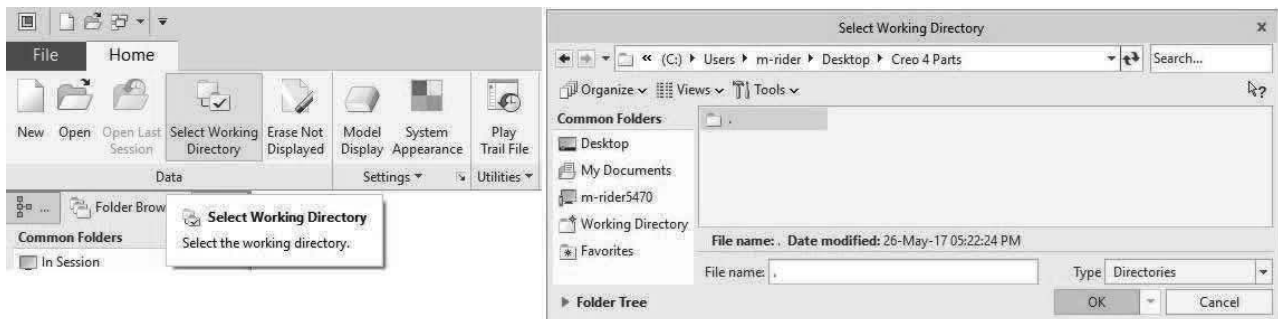

Figure 3-16 Set Working Directory
**Step 2:** Set your working directory, by *selecting the **Select Working Directory*** icon in the Home ribbon. Locate your working directory, and then *pick OK*. See Figure 3-16.